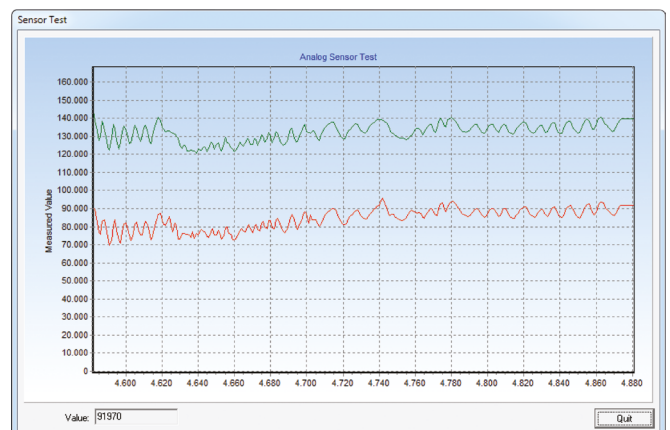

Fig. 44: Sensor Test diagram of analog sensor with 2 position magnets
- 9 Menu **Test Sensor** provides a data display (Fig. 44), which shows the absolute positions of the position magnets. Compared with the sensor measuring rate, serial data transmission between sensor and PC is relatively slow, i.e. not every actually measured value can be displayed. For this reason, only every 50th measurement value appears in the diagram.